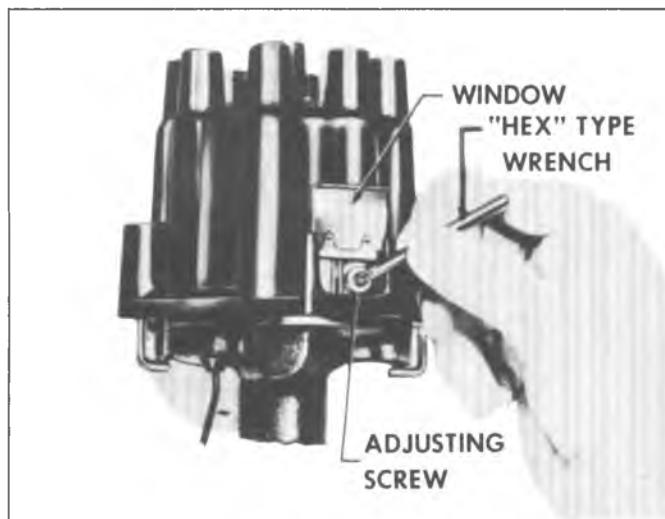

Fig. 18i—Adjusting Dwell Angle
temperatures normalized, the dwell is adjusted by first raising the window provided in the cap and inserting a "HEX" type wrench into the adjusting screw head. (fig. 18i).
- b. Turn the adjusting screw (fig. 18i) to set the dwell angle to 30 degrees.
- c. Turn the adjusting screw clockwise (fig. 18i) until the lamp lights, then give the wrench $1/2$ turn in the opposite direction (counter-clockwise) to obtain the proper dwell angle.